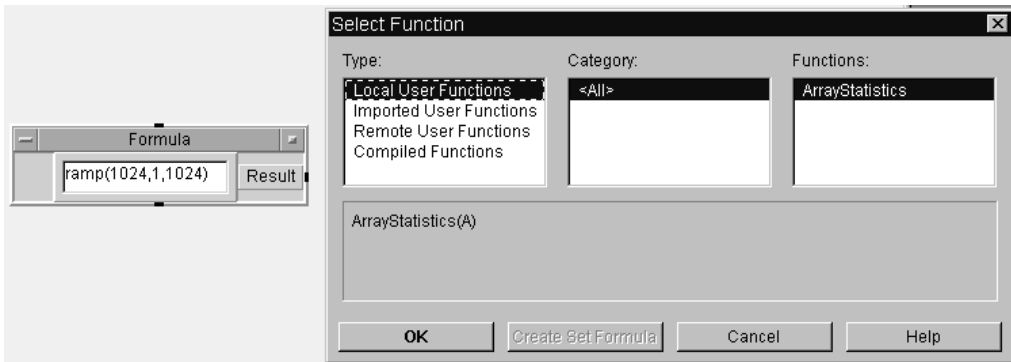

Figure 11.3. Configuring Call myFunction
16. Open the Call Function object menu; click on Select Function. See Figure 11.3 (the default values are correct); click OK.